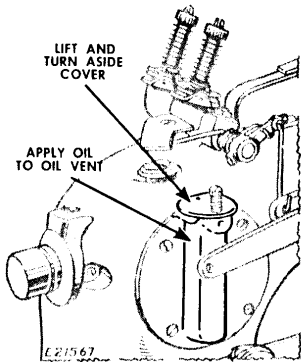
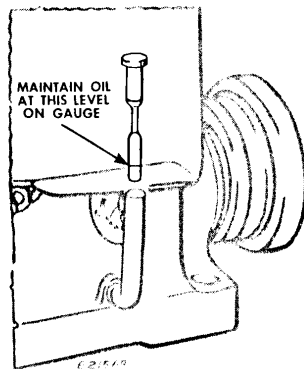

Fig. 2
Fig. 3
CAUTION:—The cover over the oil vent in Fig. 2, must be kept closed at all times, except when oiling.
Never permit oil level to drop more than 1/4 inch below level indicated in Fig. 3, on gauge, when the machine is at rest.
IMPORTANT:—After oil has been applied to all wicks, oil holes and places where parts are in movable contact, as instructed in Figs. 2 to 10, run the machine at moderate speed for five minutes. Stop the machine. Let it stand idle for a few minutes. Check oil level in reservoir. If necessary, add sufficient oil to bring it to level indicated in Fig. 3, on gauge.
3. Check oil level in reservoir and add oil through oil vent, when necessary, as instructed in Figs. 2 and 3, page 4.